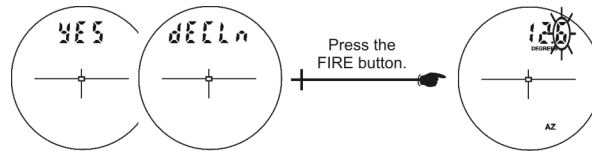

Figure 2. The TruPulse viewfinder, showing a user-entered declination value.
5. **no** and **dECLn** will blink. Press ▼ until **YES** and **dECLn** blink, then press “Power/Fire” again. The current declination is shown in the viewfinder (Figure 2).